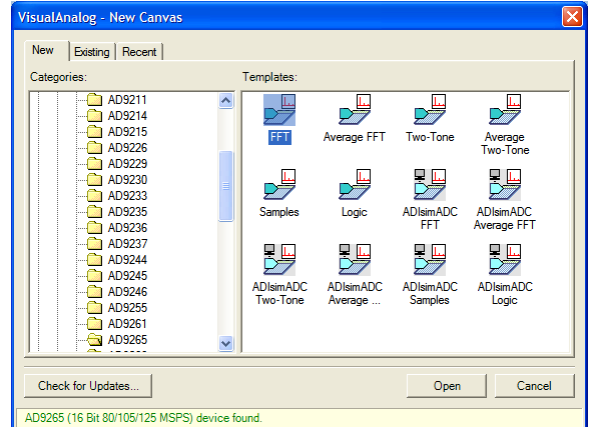

Figure 4. VisualAnalog – New Canvas Window
1. Open VisualAnalog on the connected PC. The appropriate part type should be listed in the status bar of the **VisualAnalog – New Canvas** window. Select the template that corresponds to the type of testing to be performed (see Figure 4 where the AD9265 is shown as an example).